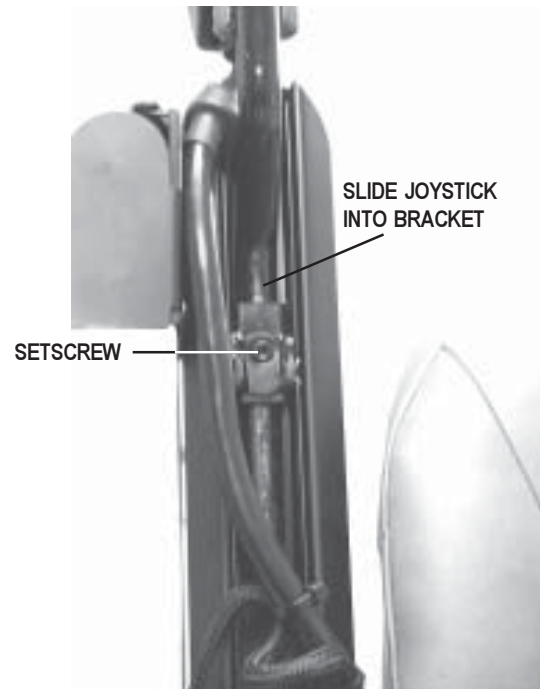

Figure 13. Joystick
1. Use a 3/16-in. hex key to loosen the setscrew. See figure 13.